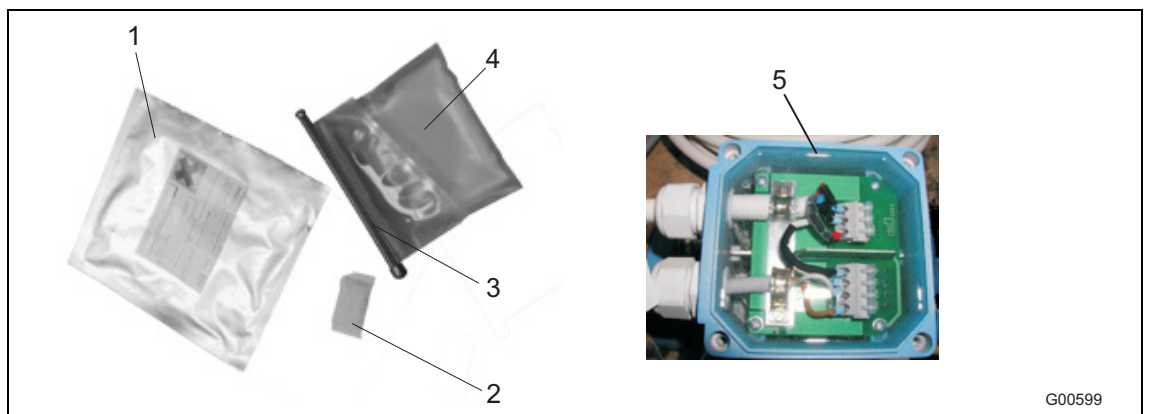

Fig. 34
- Do not overfill the terminal box. Keep the sealing compound away from the O-ring and the seal/groove (see Fig. 34).